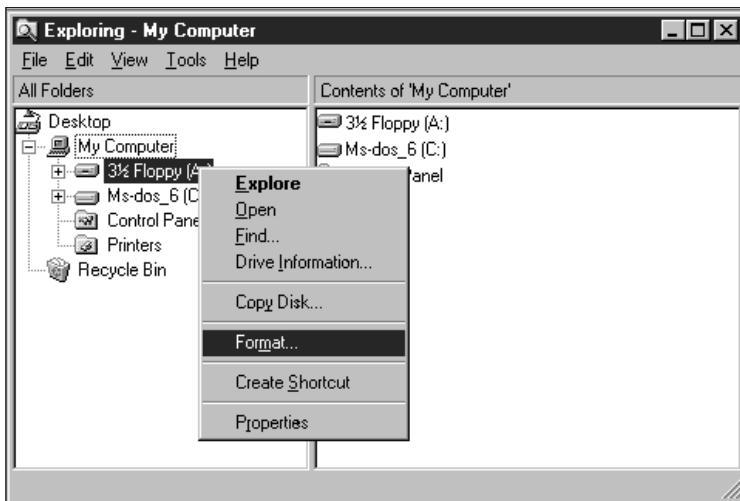

Figure 5-8 Menu to manage a floppy disk
1. Click the **Start** button on the Taskbar, point to **Programs**, and then click **Windows Explorer**. Right-click either drive A or drive B. The menu in Figure 5-8 appears.